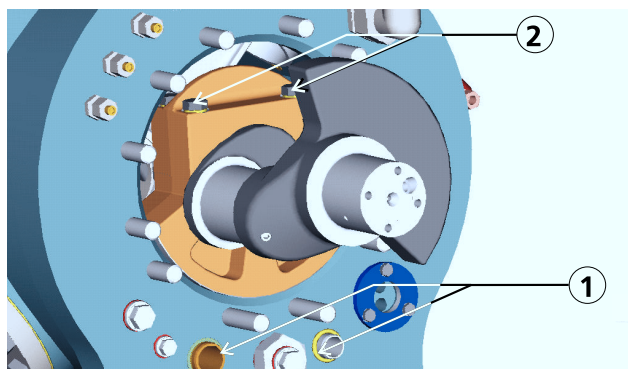

Fig.42
1. With the 3, 6 and 8 cylinder compressor, unscrew the four M16 intermediate bearing bolts (Figure 42, Page 26, pos 2).